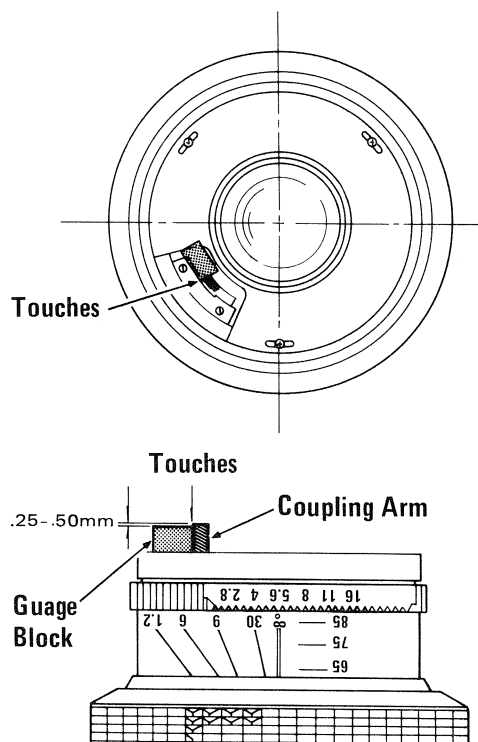

FIG. 9-10
- c) Set the aperture ring to f/5.6. The coupling arm should just contact the face of the positioning block as the aperture ring detents into the f/5.6 position. Fig. 9-10.